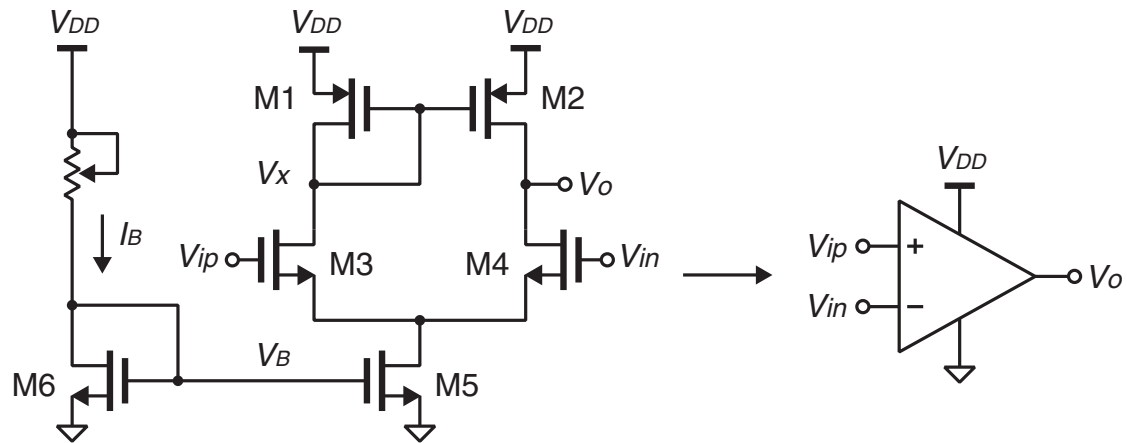

Figure 1: A CMOS opamp.
In this lab, you are to analyze, simulate, and test the basic CMOS opamp shown in Figure 1. The supply voltage ( $V_{DD}$ ) is 5 V in this lab.
Go through the following preparation steps for the opamp in Figure 1.
1. Assemble the opamp shown in Figure 1 on the breadboard
3. Adjust one of the opamp input for  $V_o = V_x$  (see Figure 1) where the opamp is at equilibrium. The opamp differential input at the equilibrium is the offset voltage of the opamp. Do not turn the potentiometers from this point.